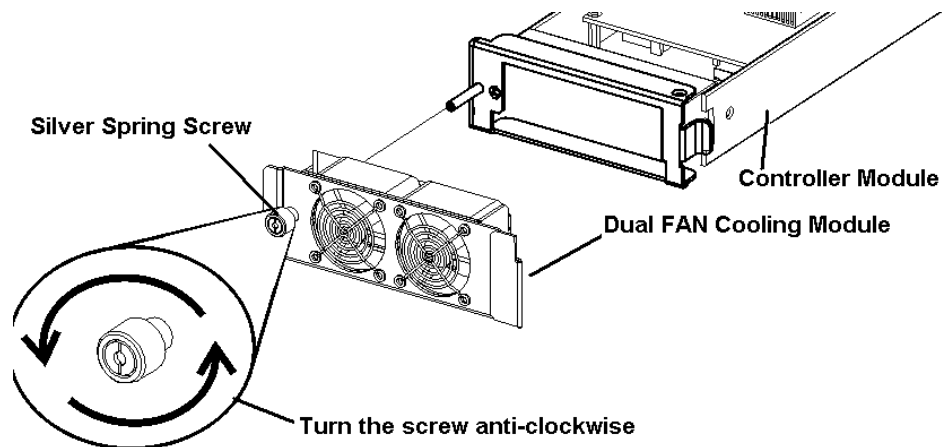

Figure 2-4: Remove the dual FAN Cooling Module
- Step 1. Remove the cooling FAN module** – When shipped, the dual FAN cooling module will be installed at the back of the controller module. Prior to installing the controller module the cooling module must first be removed. To remove the cooling module locate the silver “spring-screw” on the rear of the cooling FAN module. To loosen it turn the screw in an “anti-clockwise” direction. Once the screw has been loosened, gently pull the cooling FAN module out of the controller module. Please see **Figure 2-4**.